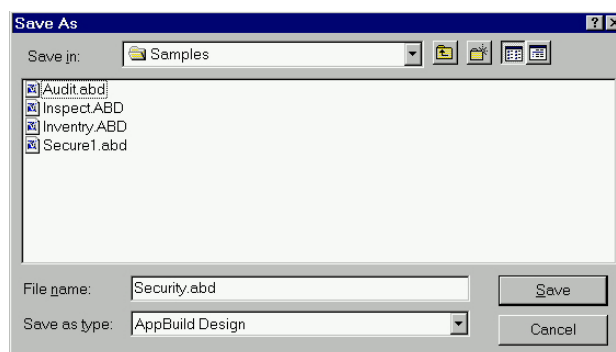

Figure 3-6 Name Application
6. Enter **Security.ABD** and click **Save** (Figure 3-6).